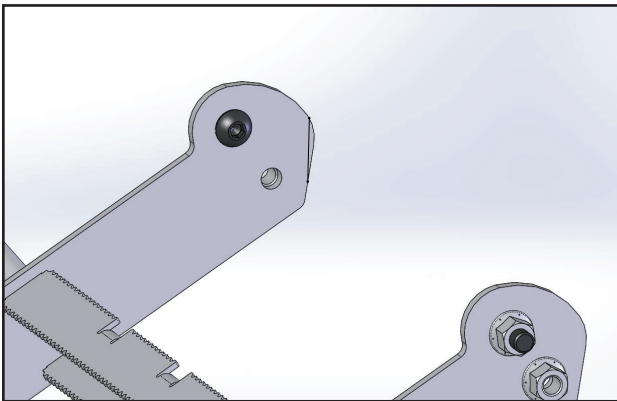

Figure 4
6. Using an angle grinder or equivalent, grind the surface of the lower ladder flush to the line marked in Step 5 on both sides (Figure 4).